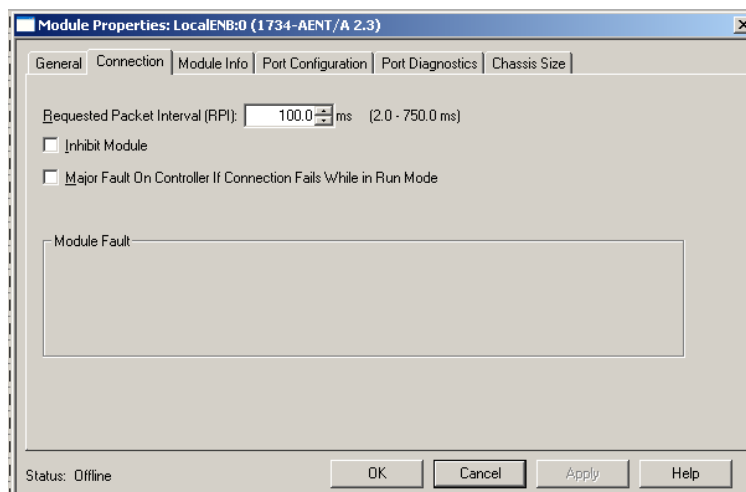

Fig. 6: Connection tap of module properties
5) Select the **Connection** tag and set the **Requested Packed Interval (RPI)** to 100.0 ms (Fig. 6). This parameter decides about refreshing of I/O data over the Ethernet/IP network.